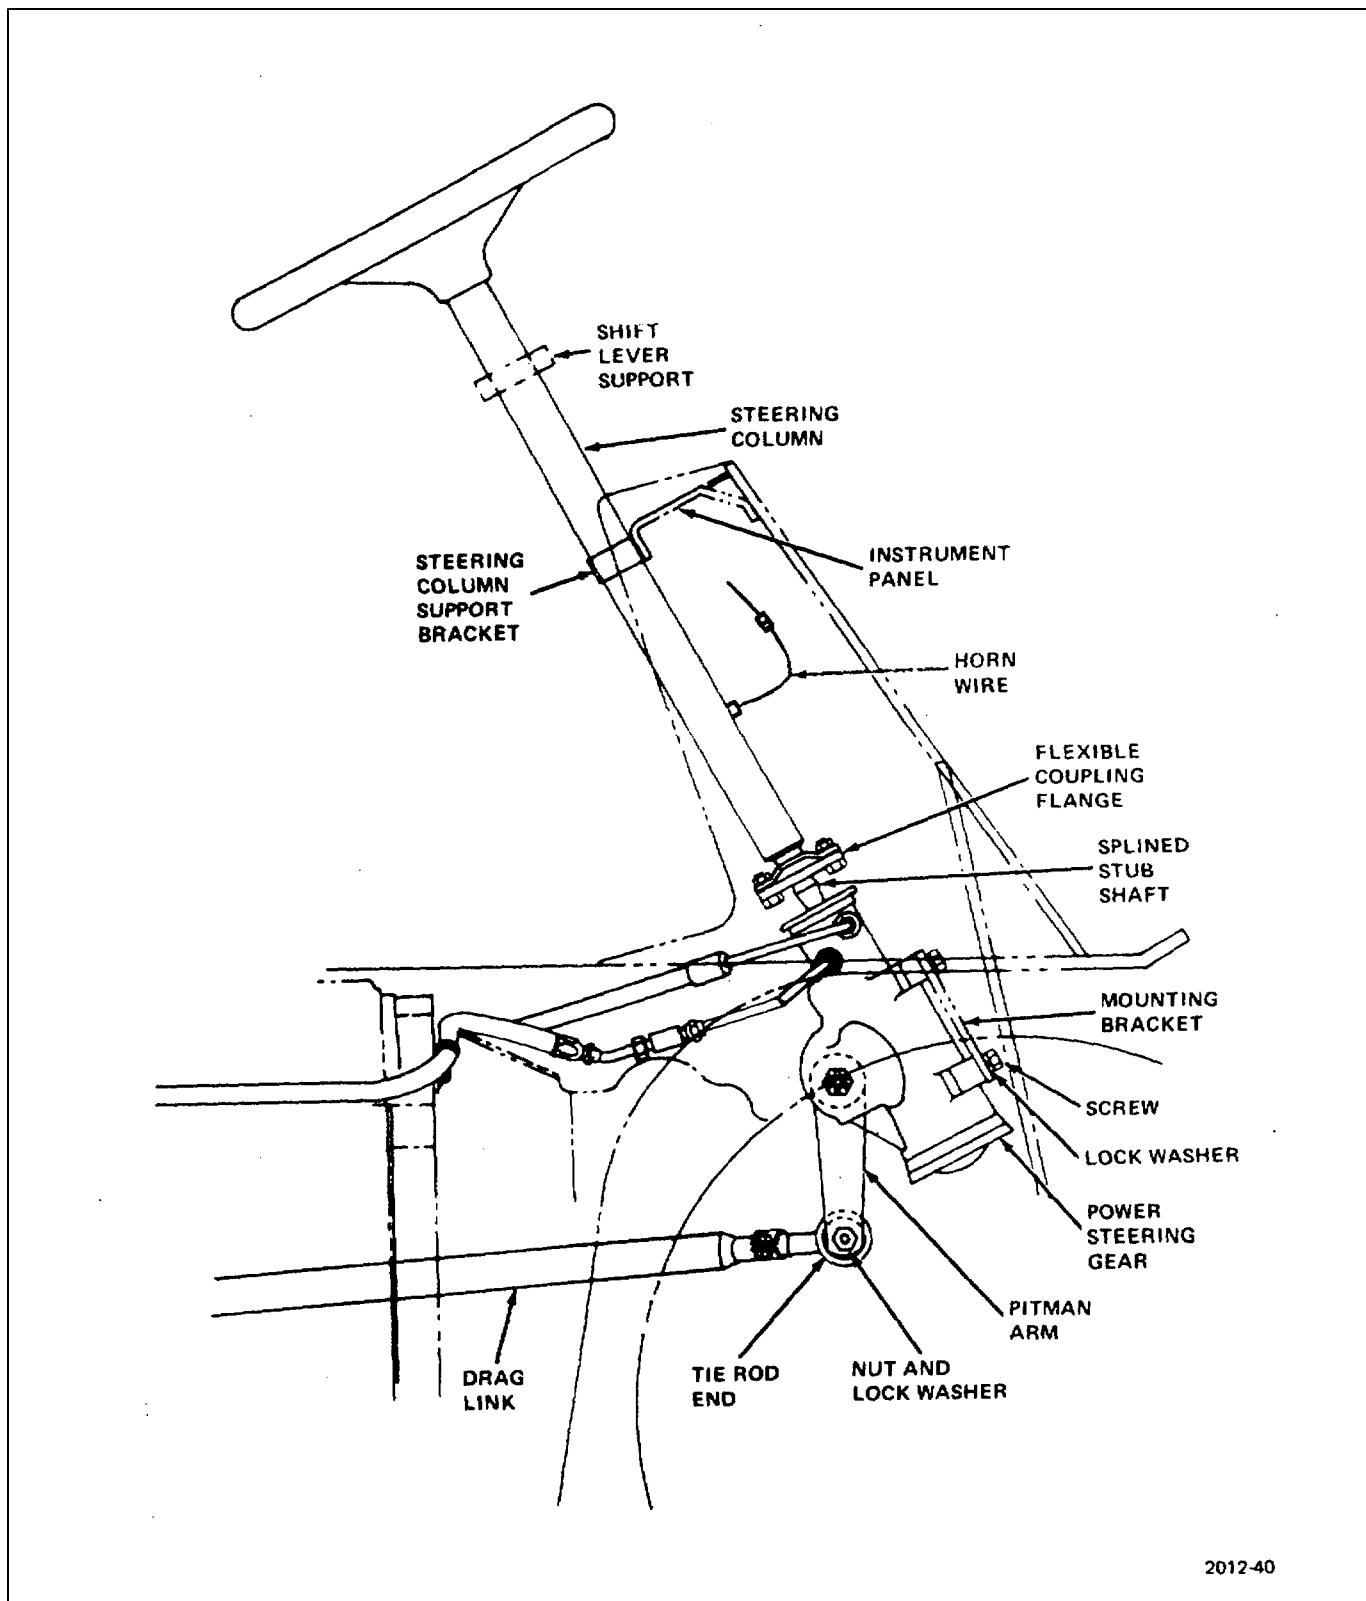

Figure 6-5. Steering Gear Removal
6-71. It is not necessary for any repair operation to remove both the steering gear and the steering column at the same time. These items can be separated at the flange shown in figure 6-5, permitting removal only of the item needing service without disturbing the other item.
1. Remove the truck floor plate, and loosen the pinch bolt which clamps the split bore of the flexible coupling to the splined stub shaft of the gear (see figure 6-5).